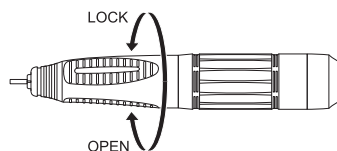

Fig. 7
- Turn the bur lock ring in the OPEN direction shown in the Fig. 7 until it clicks to open the chuck.
- Turn the bur lock ring in the LOCK direction shown in the Fig. 7 until it clicks to close the chuck. After attaching the bur, pull it back and forth to confirm that it is connected securely.